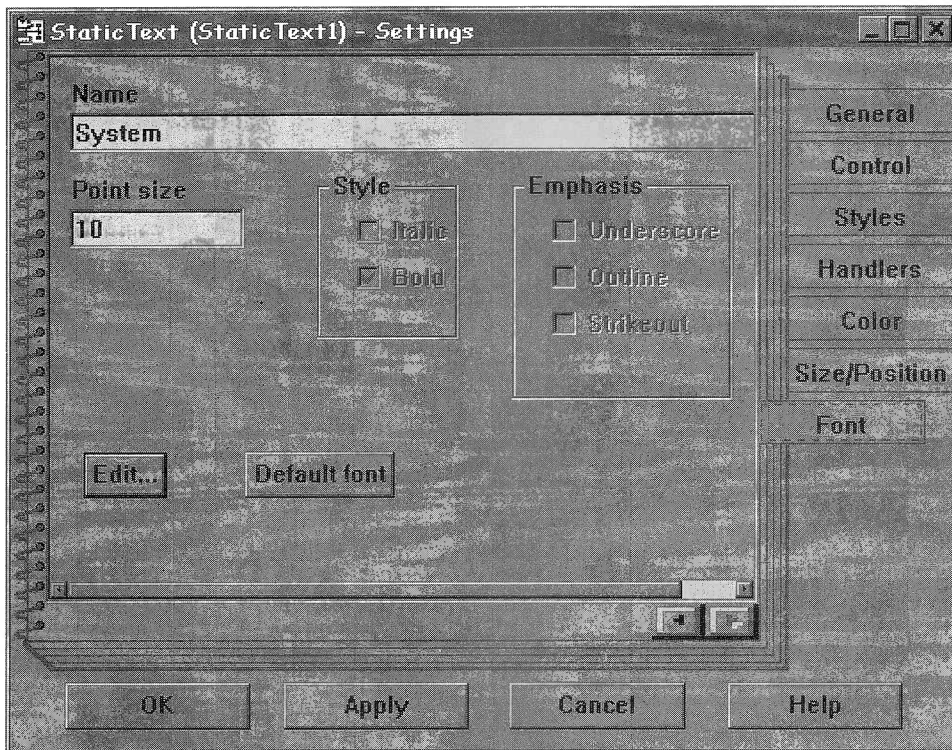

Figure 23: Setting notebook for IStaticText
- ❑ Select the **Font** page of the settings notebook, see Figure 23.